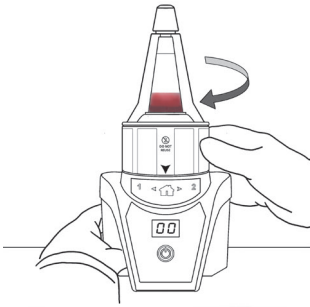

Figure 11
- Following the 15-second countdown, rotate the Disposable Unit ▼ to the Home Position 🏠 (Figure 11). The device will automatically deactivate.